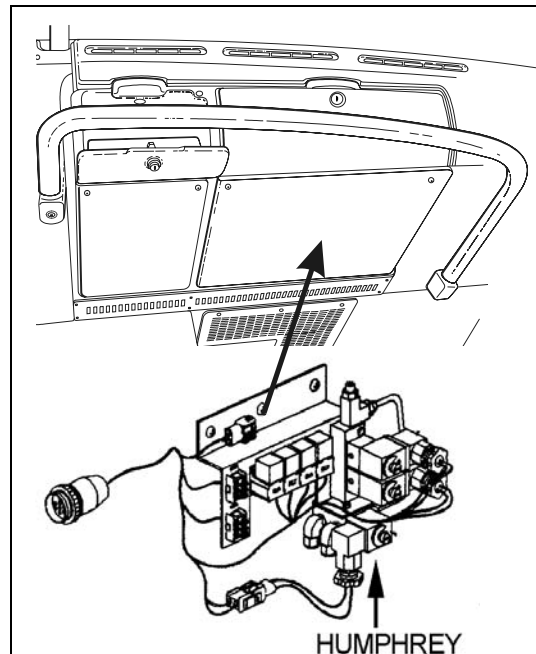

FIGURE2: SOLENOID VALVE LOCATION
2. Remove the panel to gain access to the Humphrey solenoid valve (figure 2) found on the entrance door control module.